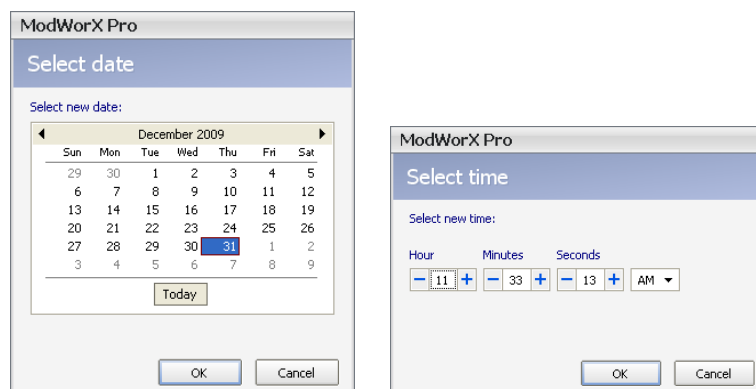

Figure 3.8
2. Click the **Edit** buttons to change the date and time displayed using the calendars shown in Figure 3.8.